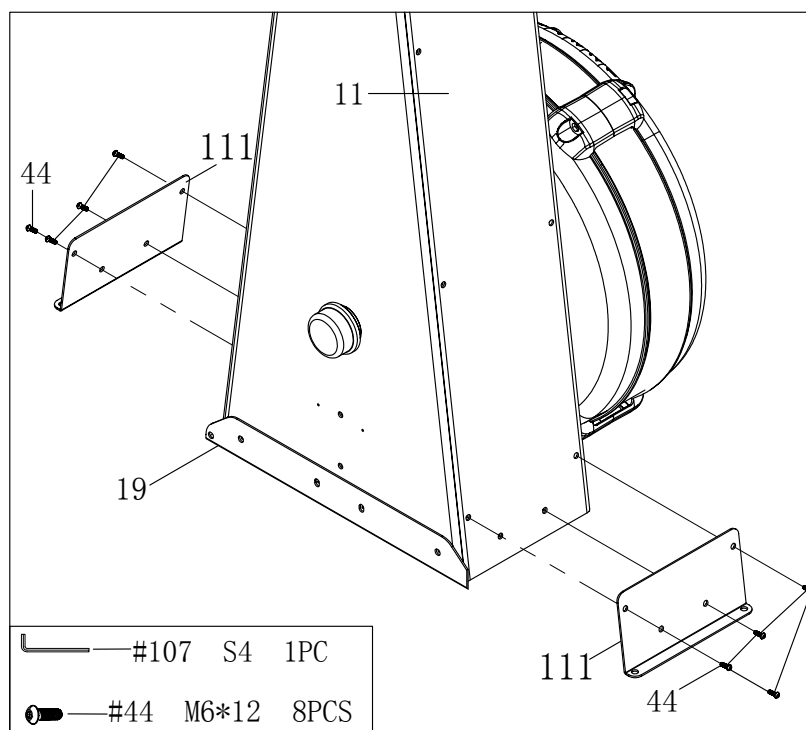

Fig. 6
2. Fix the two base connection plates (111) to the main frame (11) with eight bolts (44) (Fig. 6).